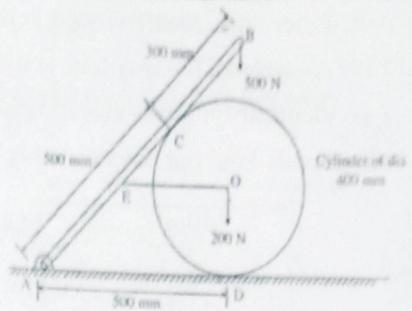

Fig 2.103
- 2) A bar is hinged at A and rests on cylinder at C. AC=500mm, CB= 300mm, diameter of cylinder is 400mm and its weight is 200N. The center of cylinder is connected to the bar by a horizontal wire OE as shown in figure 2.103. A weight of 500N is suspended at B. Determine i) Reaction of Hinge A, ii) Tension in the wire, iii) Reaction at C and D. Neglect the weight of the bar and assume all surfaces smooth. (Ans: 552.13N, 79.33N, 800N)